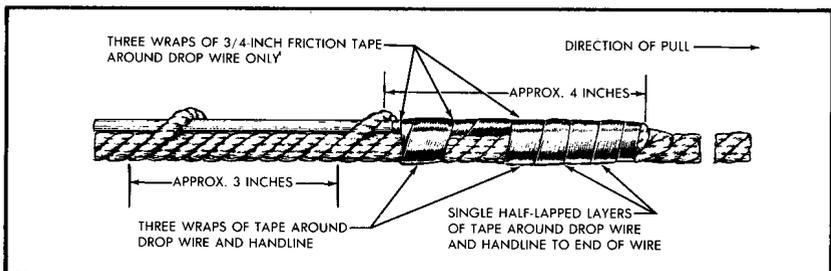

FIGURE 2. Alternate Tie to Prevent Snagging
**i.** Standing on the ground, **Employee No. 2** now throws the free end of the handline over the power wires or power cables. Tie this end of the handline to the end of the drop wire by means of a square knot, serving the end of the wire around itself without sharp bends. If the handline has been placed over a drive hook or other support on which the square knot would snag, fasten the handline to the wire as shown in Figure 2.